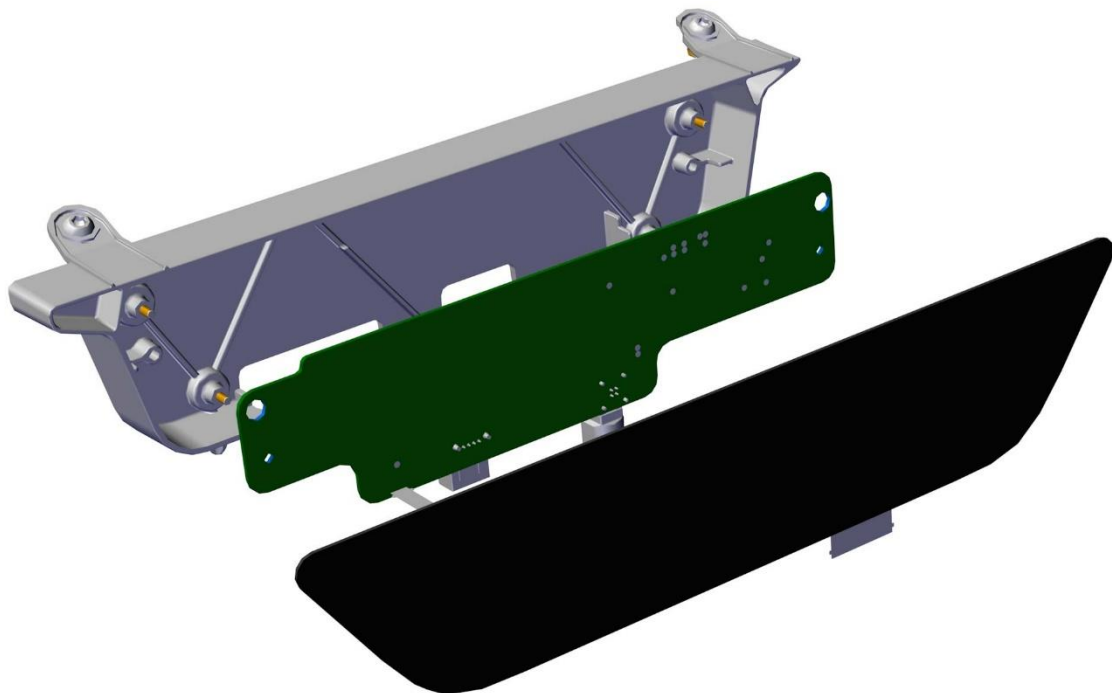

Figure 4 - Passenger Display Assembly
- Passenger Display Assembly – Figure 4